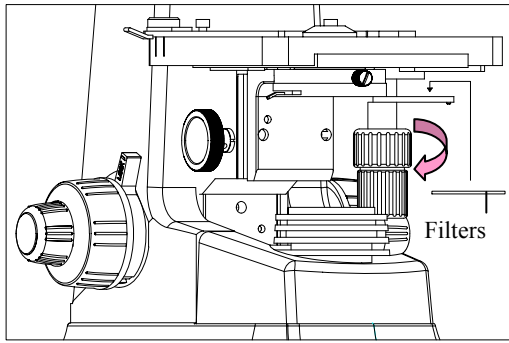

Fig.8
#### 4.2.5 Installing the color filters (Fig.8)
1. Pressing the salient point under the condenser bracket, turn the condenser bracket① out at the direction of arrow in Fig.8